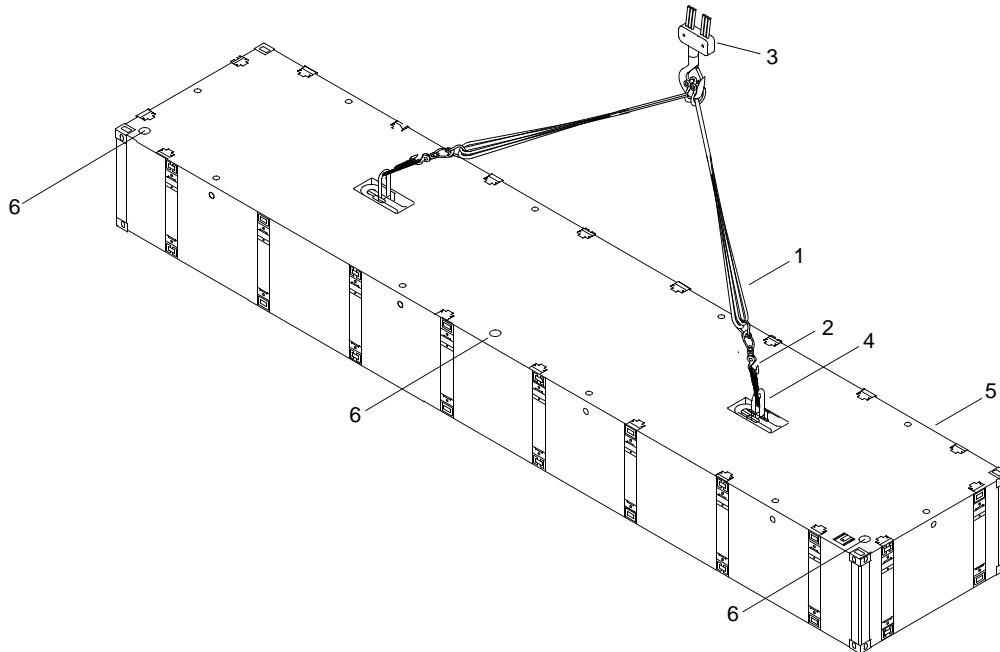

Figure 6. Lifting the Center Module
12. Attach two 53,000 lb slings (figure 6, item 1) and 36,000 lb adjustable chain slings (figure 6, item 2) from crane (figure 6, item 3) to padeyes (figure 6, item 4) on center module (figure 6, item 5).
13. Using slings (figure 6, items 1 and 2) and crane (figure 6, item 3), lift center module (figure 6, item 5).
14. Remove 36,000 lb adjustable chain slings (figure 6, item 2) from padeyes (figure 6, item 4) on center module (figure 6, item 5).
15. Remove 53,000 lb slings (figure 6, item 1) from crane (figure 6, item 3).
16. Verify drain plugs (figure 6, item 6) on center module (figure 6, item 5) are installed and tight.